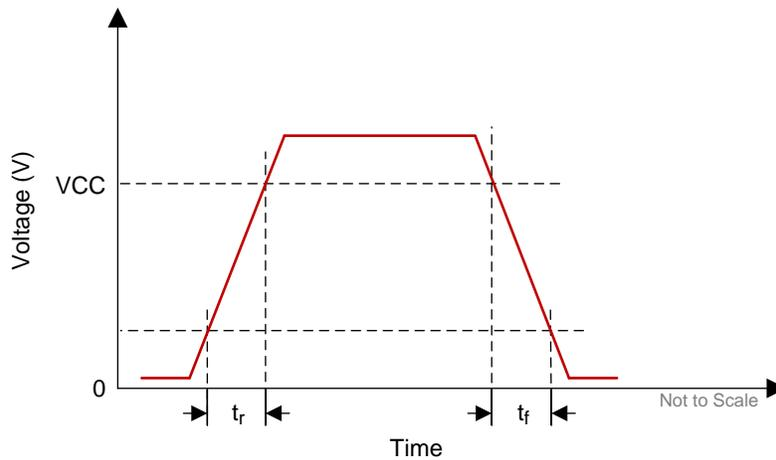

Figure 3. SCP Requirements for Rise and Fall
- (1) See Figure 3 for Rise Time and Fall Time for SCP.